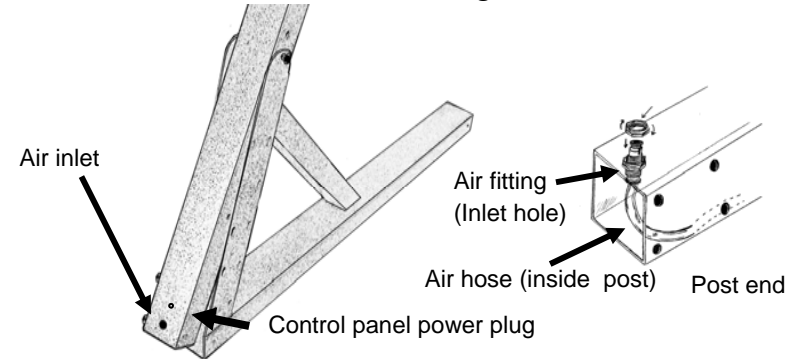

Fig. 3
- Remove one nut from the air fitting, then insert black hose and fitting through air inlet hole in upright top hole. **See Fig. 3**
Note: Black hose not shown in Fig. 3